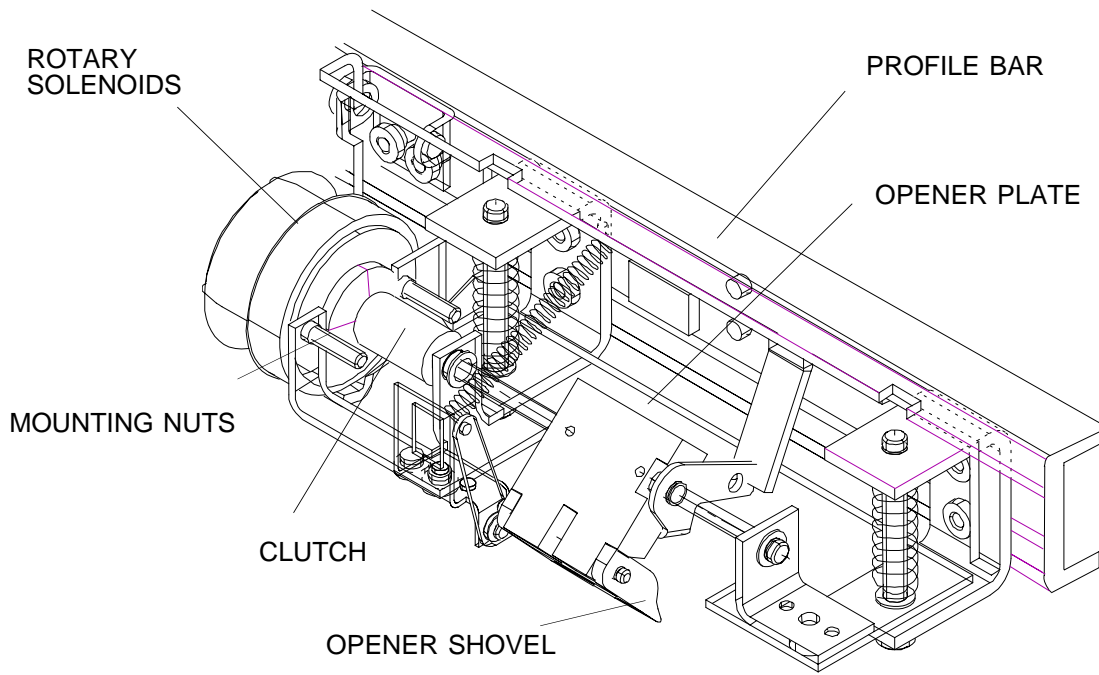

figure 4
3. Loosen the MOUNTING NUTS and turn the ROTARY SOLENOID (fig. 4).